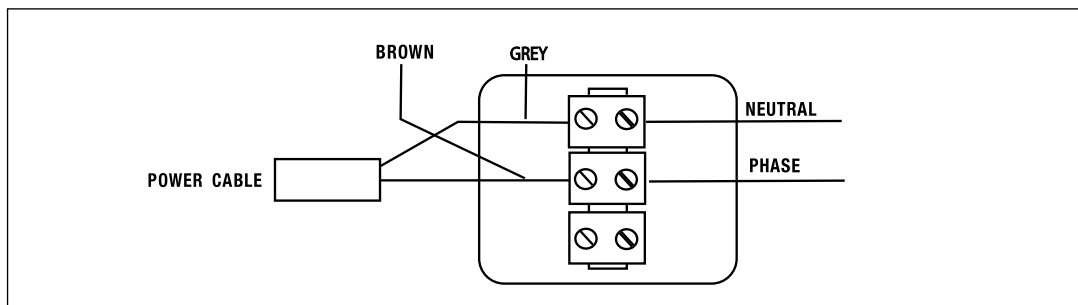

Fig. 8
- The appliance's power cable must be connected to the mains supply through a socket-less junction box (fig. 8). The junction box must be located at a minimum height of 25 cm from the floor.